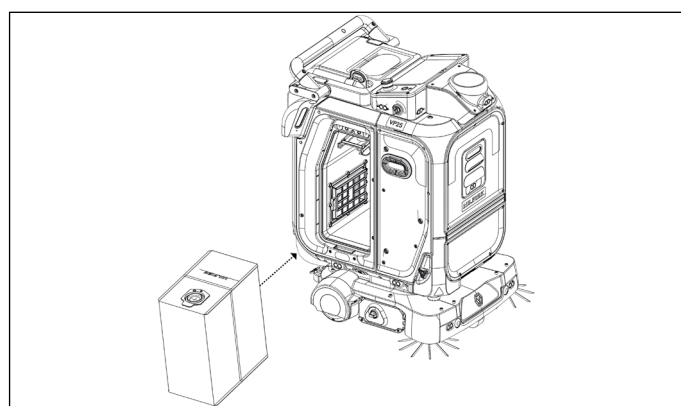

Figure 82
3. Slide the dust bag cuff into the dust bag holder (**Fig. 82**), and push up firmly to latch the dust bag holder in place.